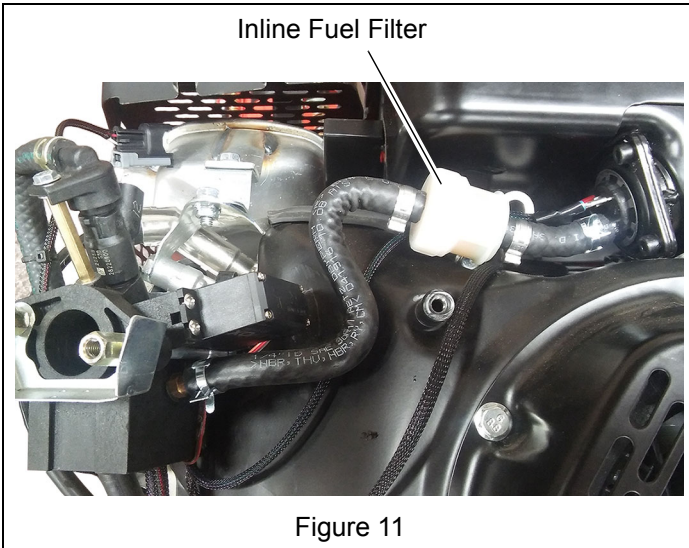

Figure 11
3. Check inline fuel filter for debris and blockage. See Figure 11.